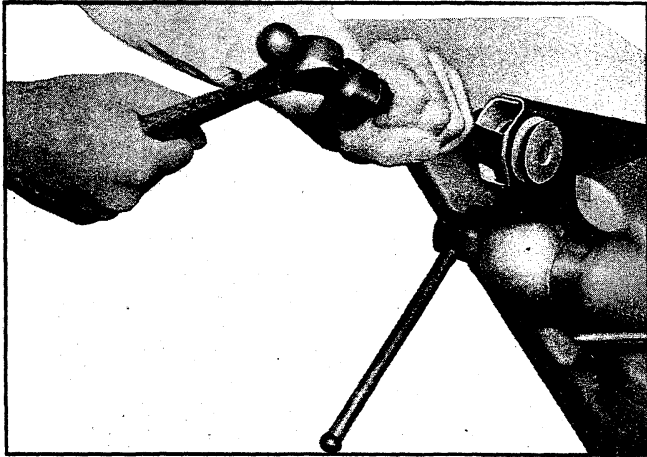

Fig. 65—Removing Bushings (Corvette)
3. Remove bushings by spreading them apart with a chisel and tap out of arm (fig. 65).